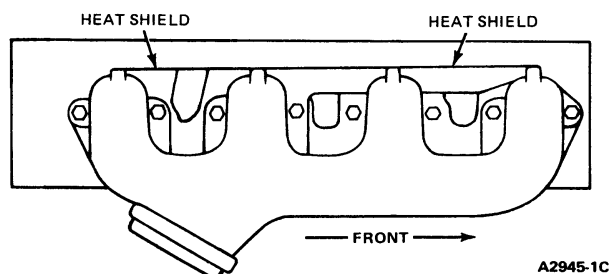

FIG. 19 Right Exhaust Manifold Installation
2. Position spark plug wire heat shields and exhaust manifold(s) on cylinder head(s). Install attaching bolts and washers, starting at fourth bolt hole from front of each manifold. Position lifting bracket under bolts at third exhaust port from front of engine. On right exhaust manifold, install shoulder stud(s) for air intake heat shroud at first and sixth bolt holes from front of manifold (Fig. 19). Install shoulder stud for oil indicator tube in first hole on left exhaust manifold. Tighten bolts to specifications listed at the end of this Part working from center of manifold to both ends.